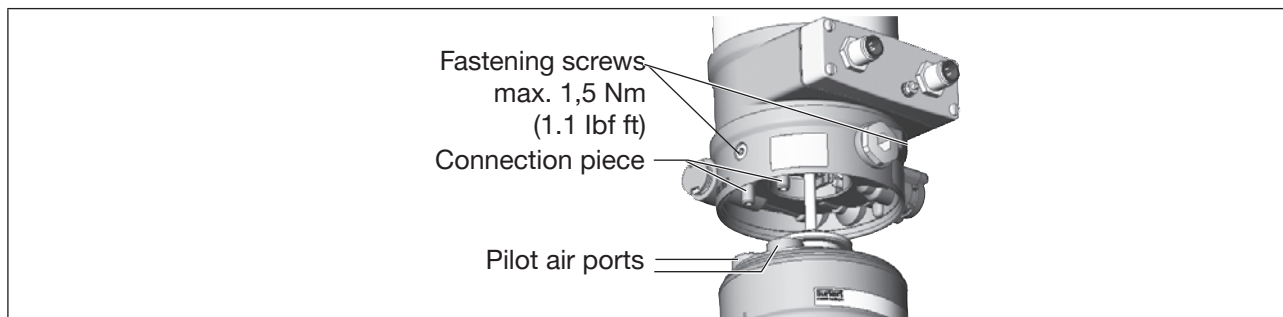

Figure 15: Aligning the pilot air ports
1. Align the pilot air ports of the actuator with the connection pieces of Type 8692/8693 (see “Figure 15”).